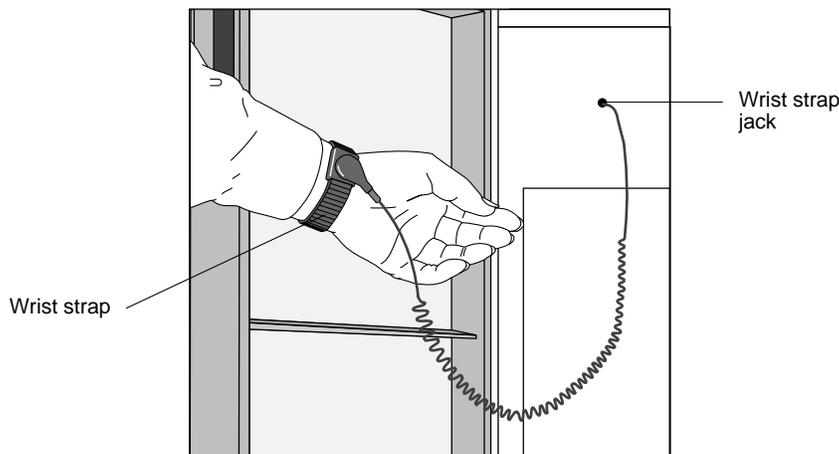

Figure 3-2. Antistatic wrist strap
2. To use the wrist strap, remove the strap from the hook and slide it around your wrist, as shown in Figure 3-2.